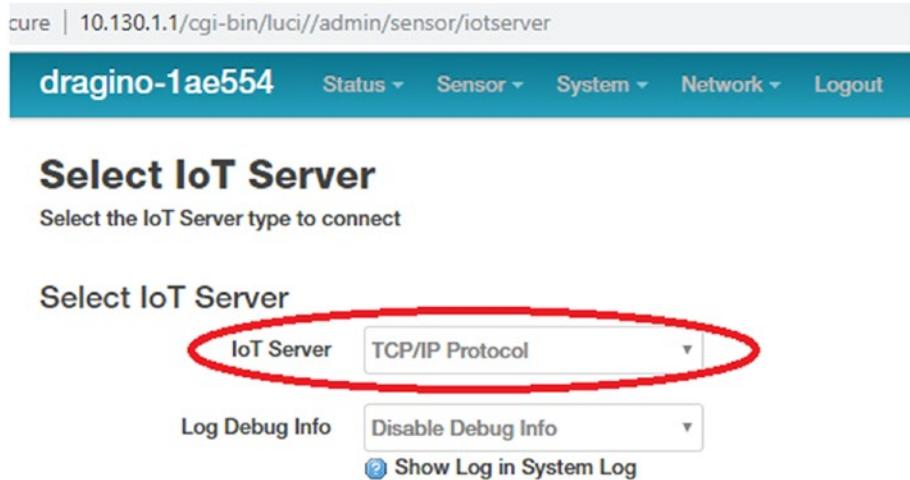

Figure 6-9. Choosing the IoT server for the TCP/IP protocol
- In the configuration interface, select Sensor ► IoT Server. On the Select IoT Server page, from the IoT Server drop-down list, choose TCP/IP Protocol (Figure 6-9).